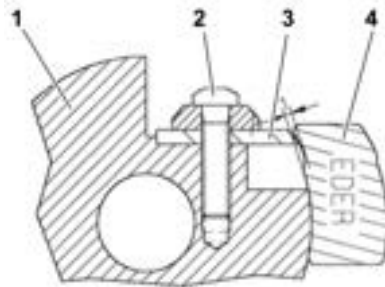

Fig. 17: Replacing knives on the carving cutter
- > Loosen the knife screw (2 - Fig. 17) slightly.
- > Place the knife gauge (4 - Fig. 17) on the milling head (1 - Fig. 17) and slide the knife (3 - Fig. 17) against the gauge until it touches the notched area.